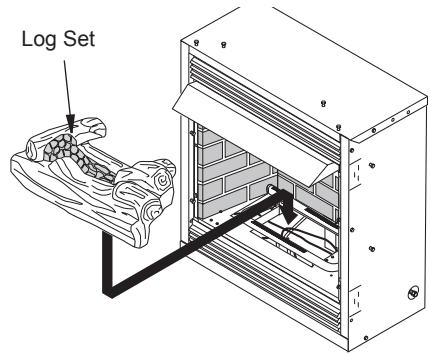

Figure 37 - Installing Log
4. Remove log packaging material and discard. Gently place log over burner (see Figure 37). (Do not allow log to contact flame as this will create sooting.)